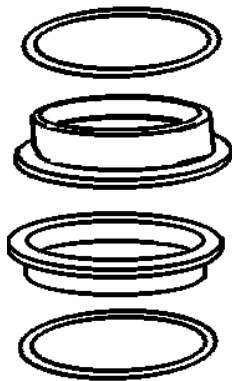

Fig.6-26
- 3) When installing unitized seals on the wheel shaft cover and the rotating part between the final cases (A and B),apply force only to the outer circumference of the seal as shown in Fig.6-26 to avoid deformation.